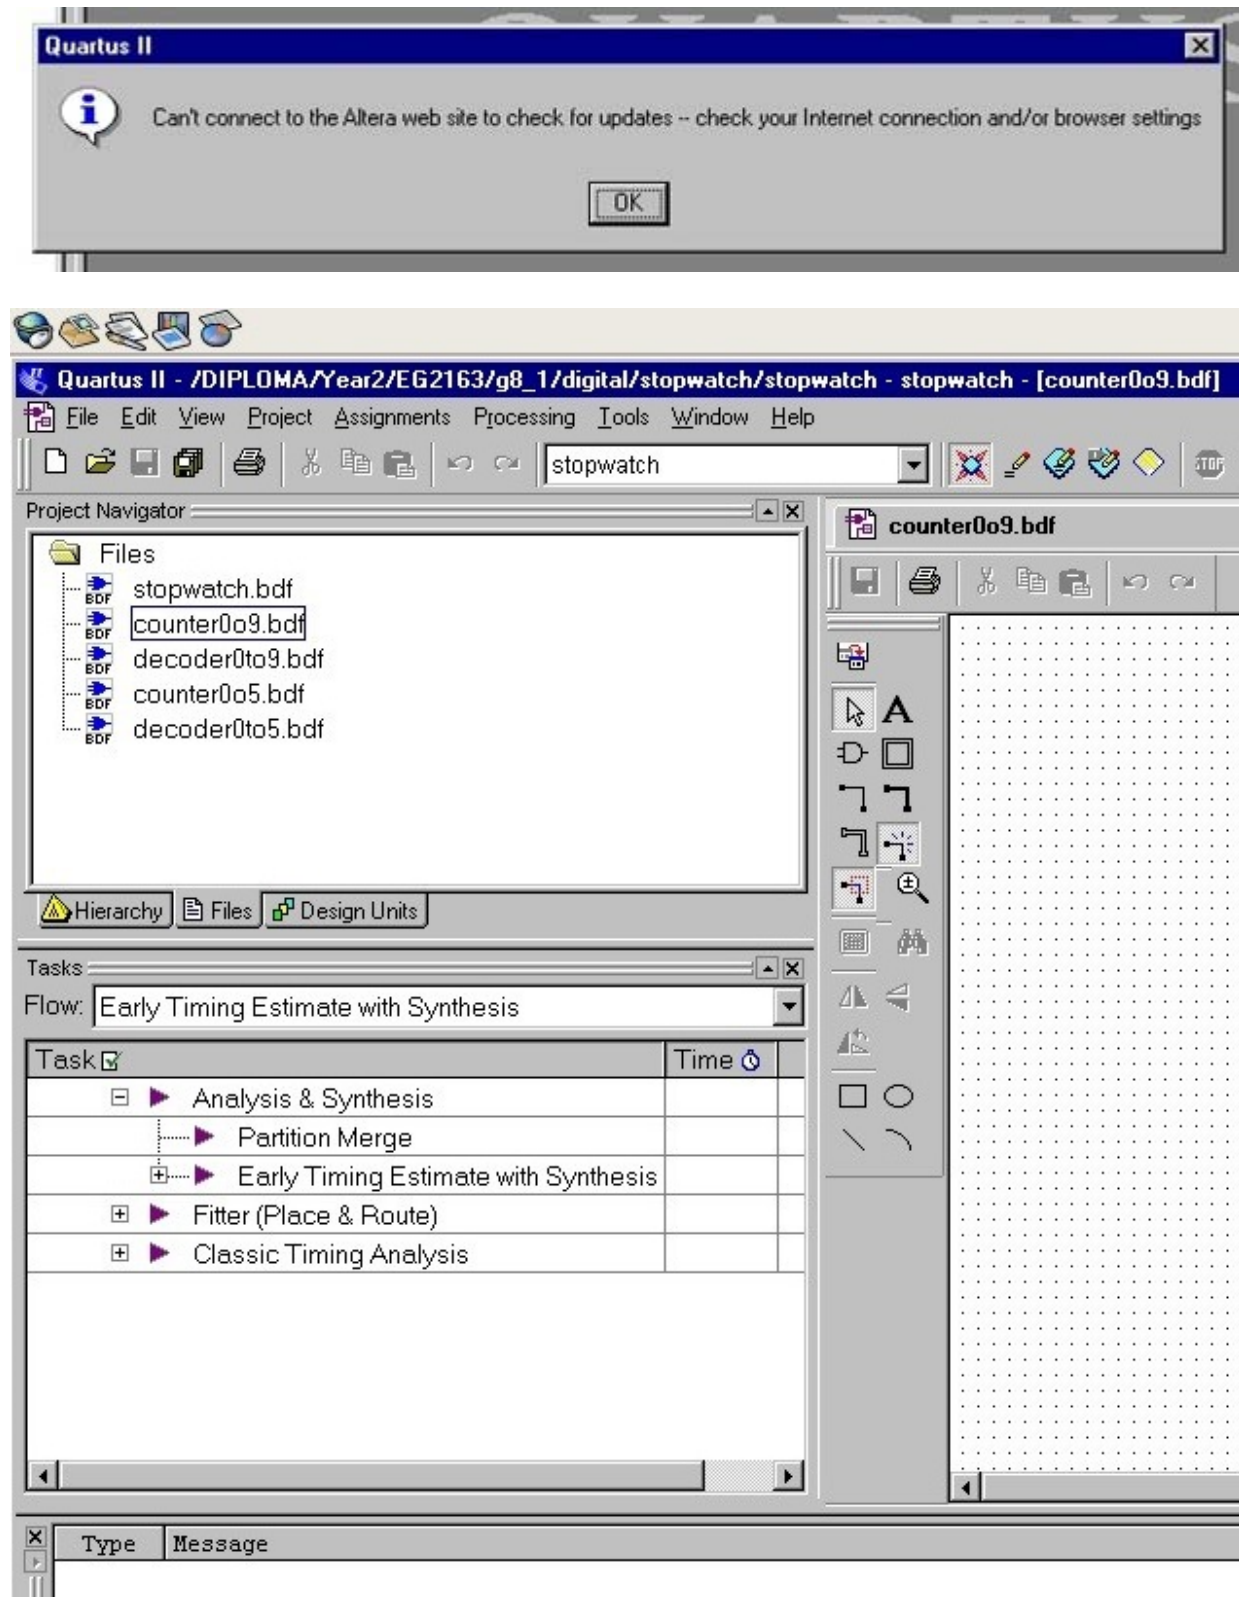

Figure 3.4 Select to open the *counter0to9.bdf*
2. Click **OK** if the below pop-up appear (ignore the pop-up). To draw the *counter0to9* circuit, Click **Files** and select to open *counter0to9.bdf* from the menu as shown in Figure 3.4.